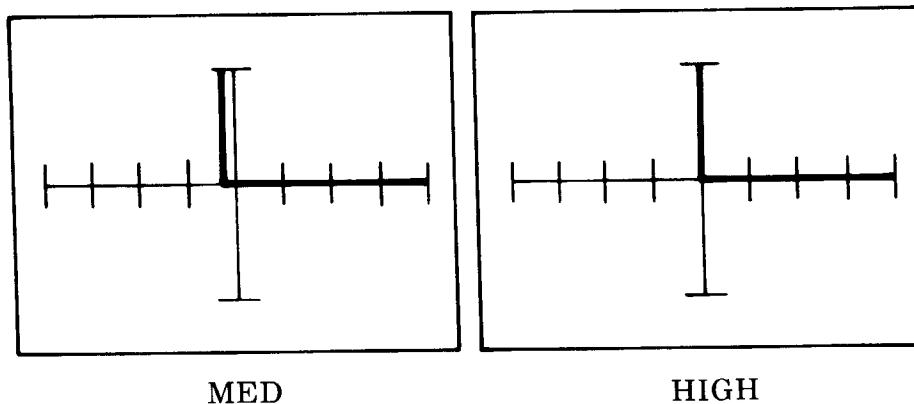

Figure 4-2. Signatures of a diode in the MED and HIGH ranges
26. Install a diode across the Channel A and Common Test Terminals. You should see a signature as displayed in Figure 4-2.